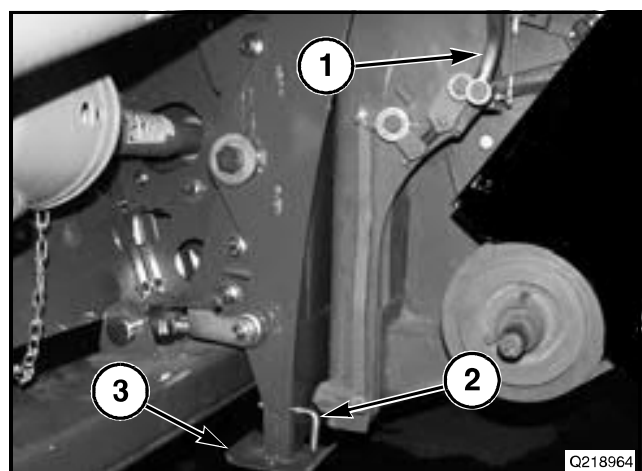

FIG. 14
FIG. 14: Install the tool (1) onto the latch crank and rotate the upper latch assembly counterclockwise to lock the hooks into the header. Make certain the latch is rotated over center to lock the hooks.